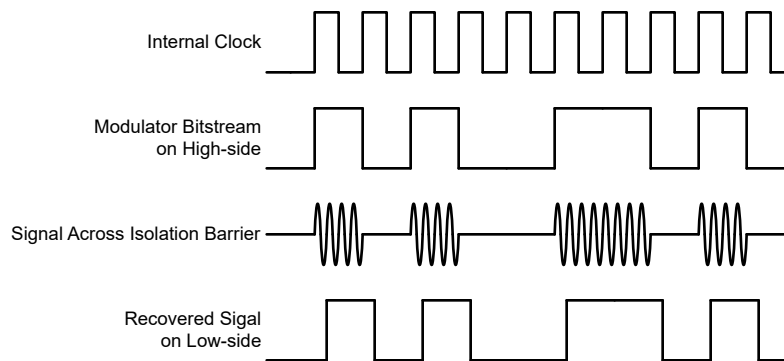

Figure 6-2. OOK-Based Modulation Scheme
The AMC0386-Q1 uses an on-off keying (OOK) modulation scheme, as shown in Figure 6-2, to transmit the modulator output bitstream across the SiO_2 -based isolation barrier. The transmit driver (TX) as illustrated in the *Functional Block Diagram* transmits an internally generated, high-frequency carrier across the isolation barrier to represent a digital one. However, TX does not send a signal to represent a digital zero. The nominal frequency of the carrier used inside the AMC0386-Q1 is 480MHz.